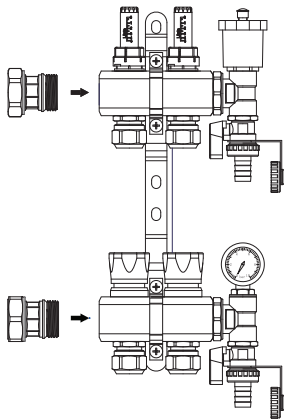

Figure 3-10: Manifold connectors
1. Insert 1" manifold connectors for mixed manifold flow and returns, ensuring they are sufficiently tightened. Refer to Figure 3-10.